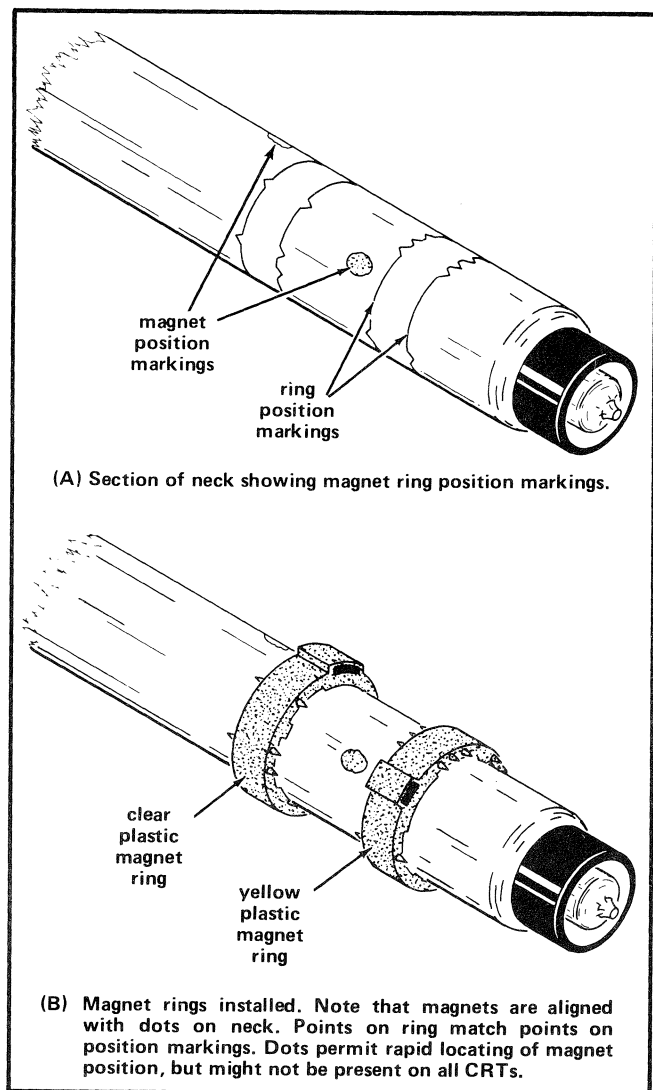

Fig. 3-3. CRT Magnet ring location details. The magnet rings should be used only when supplied with the CRT.
If a separate yoke-mounting bracket is installed, remove the rear panel from the display unit. Then remove the two nuts which hold the neck shield to the center wall. Remove the neck shield and replace (but don't tighten) the nuts, holding the yoke bracket in place. The CRT may or may not have one or two magnet rings installed on its neck. See Fig. 3-3. If rings are installed, note that the ring positions are marked as in Fig. 3-3(A) and then slide the ring(s) off the neck of the tube.
This paragraph pertains only if the unit contains a separate yoke-mounting bracket. If magnet rings were supplied with the CRT, install them; align them as illustrated in Fig. 3-3. Remove the deflection yoke-mounting bracket nuts. Slide the neck shield into place. Replace the nuts and tighten them moderately.